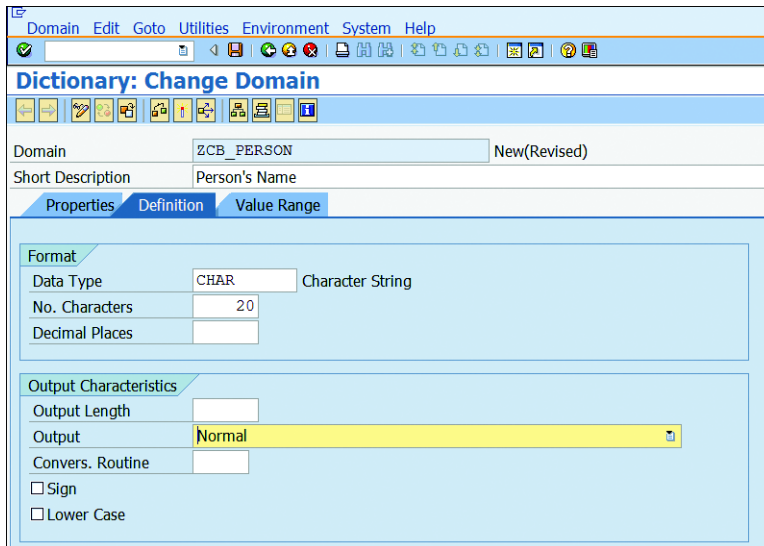

Figure 4.15 Change Domain Screen
- Use the help for the DATA TYPE field to select the data type and enter a value for the NO. CHARACTERS field. This value defines the field length (Figure 4.15). Optionally, you can enter the number of DECIMAL PLACES for numeric types.